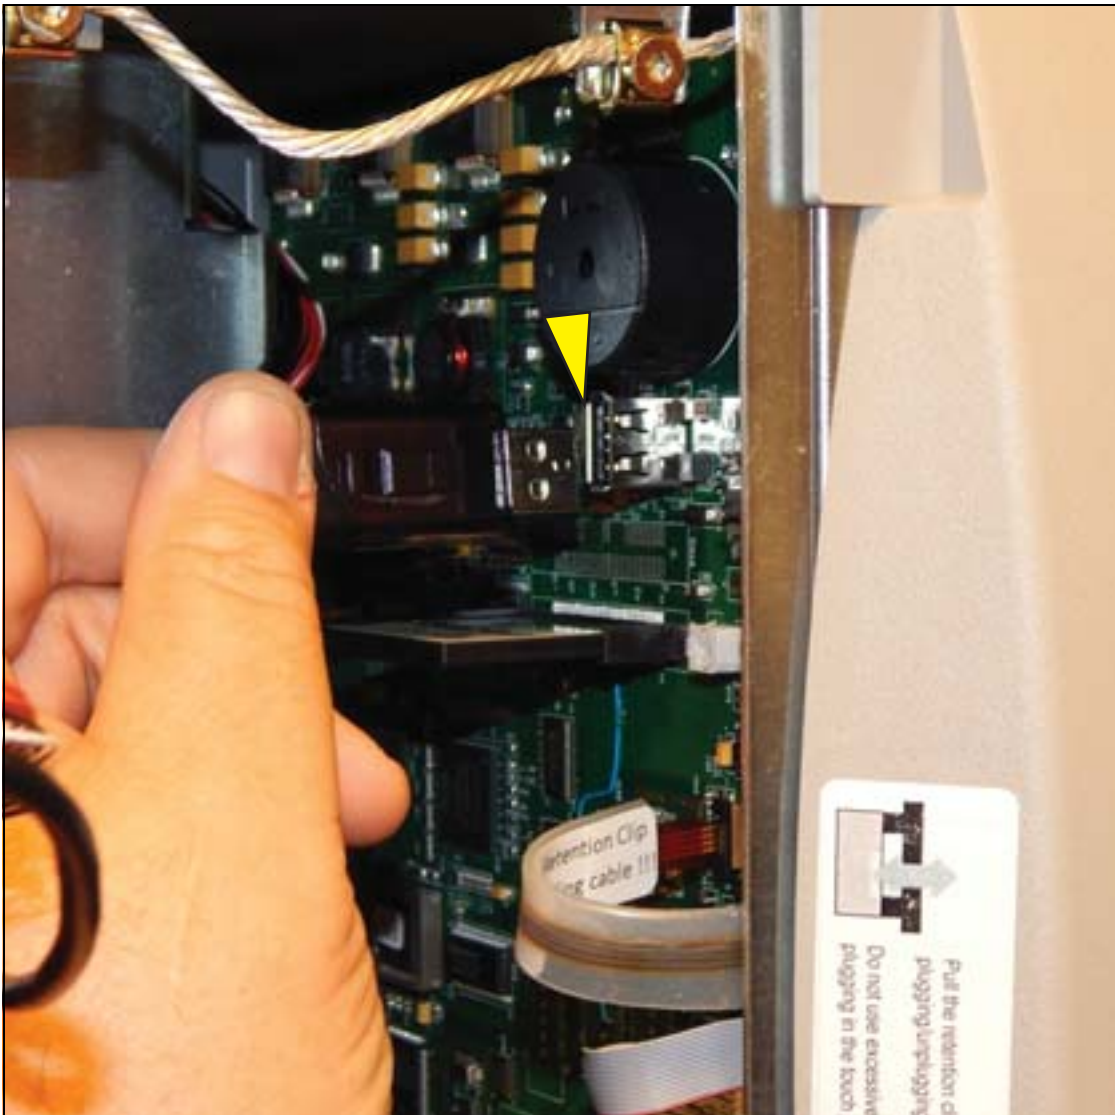

Figure 6. Removing Optional Printer Cable
3. If a printer is installed, unplug the printer USB cable from the CPU board connector (see Figure 6).